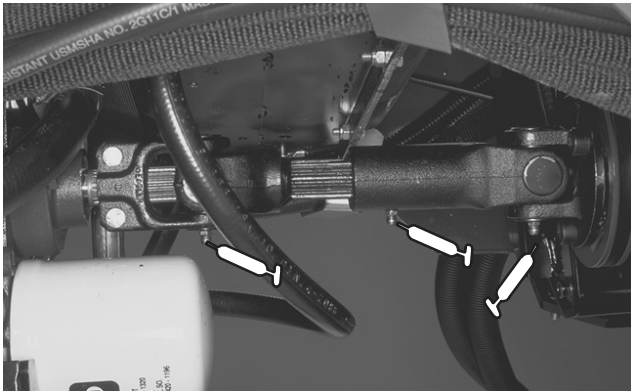
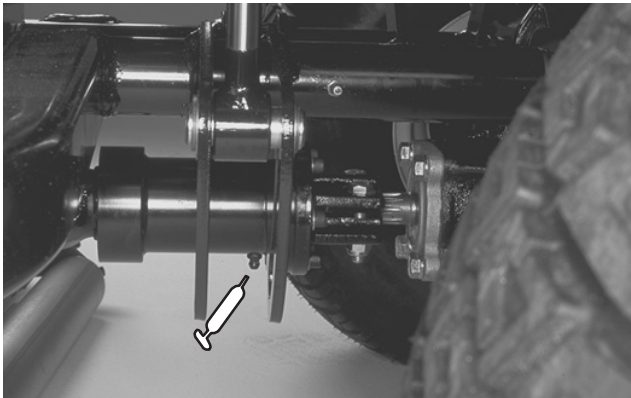
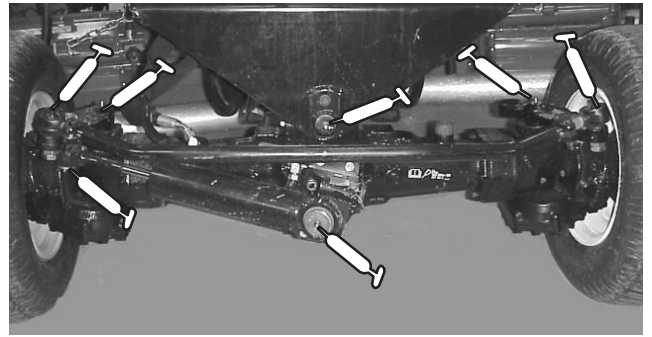
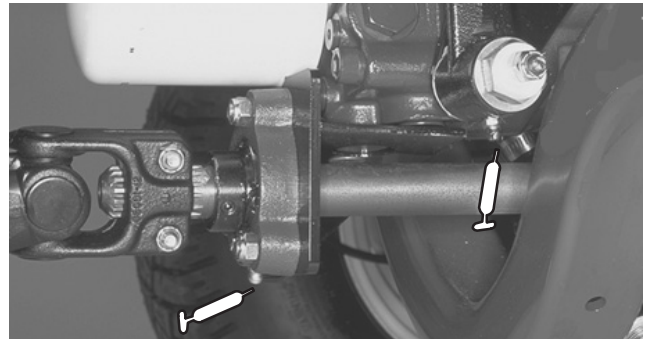

Figure 18
Figure 19
Figure 20
Figure 21
The grease fitting locations and quantities are: Engine Drive shaft (3), (Fig. 18); Drive shaft clutch (1) (Fig. 19); Rear axle tie rod (2), Steering cylinder ball joints (2), Axle steering pivots (2) Rear axle pivot (1) (Fig. 20); Drive shaft support bearing (1), Rear axle drive shaft (3) (Fig. 21).